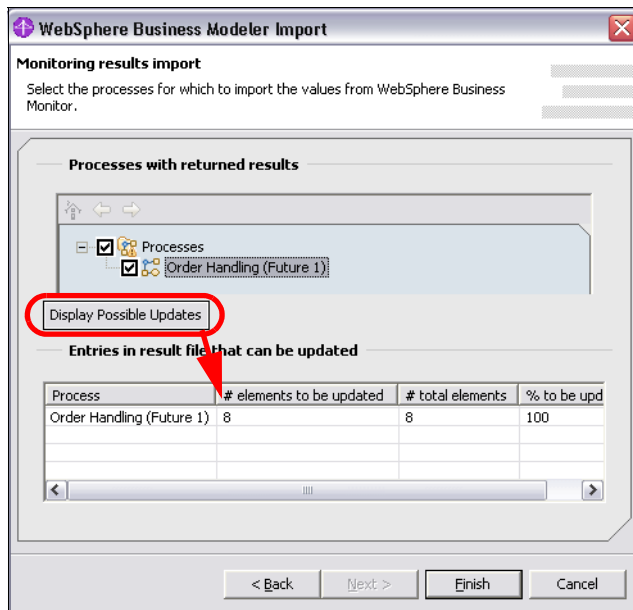

Figure 15-5 Modeler: Importing Monitor results (3)
- ▶ Click *Display Possible Updates* and the list at the bottom is filled. Click *Finish* (Figure 15-5).